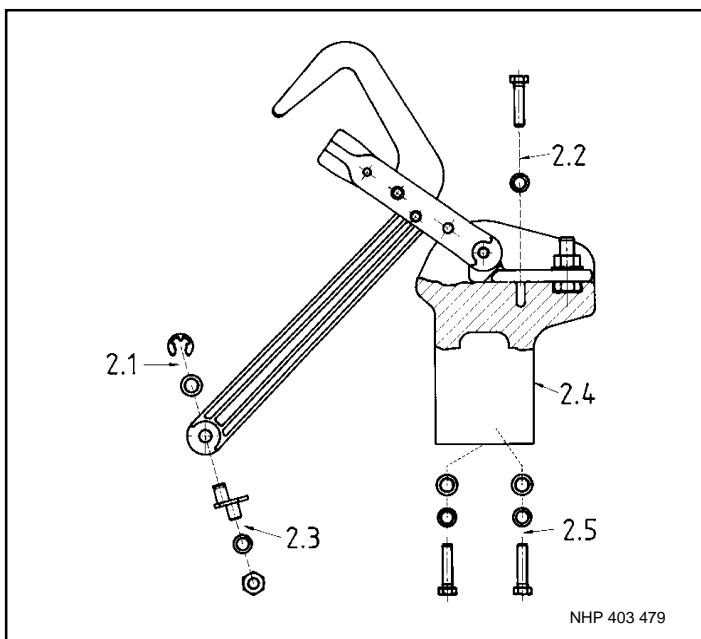

fig. 17
10.1 Replacement of contact knife with draw bar Fig. 17.